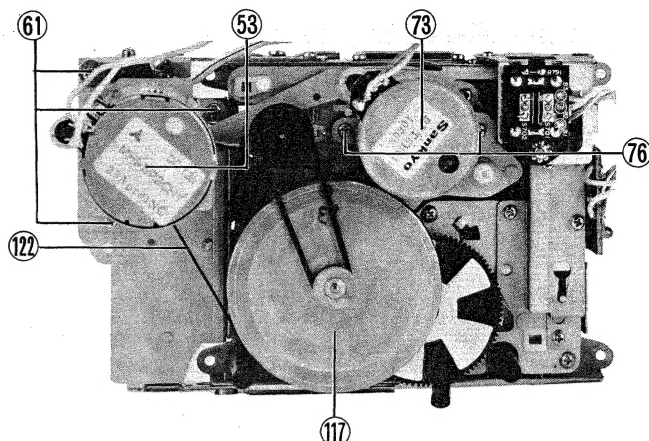

Fig. 13
H. Capstan motor ⑤③ (Fig. 13)
1. Remove the capstan belt ①②② .
2. Remove 3 screws ⑥① with motor bracket.
I. Reel motor ⑦③ (Fig. 13)
J. Flywheel ass'y ①①⑦ (Fig. 13)